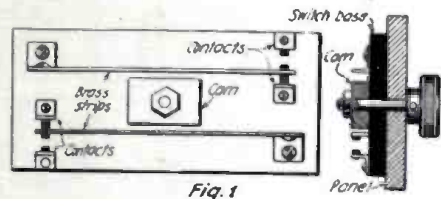

Fig. 1
The transmitter to be described is shown in Fig. 1. It will be seen that there are two distinct sets of tubes, (1) used as an oscillator, and (2) used as an amplifier. In the figure the oscillator is shown as comprising a single tube while two tubes in parallel are used in the amplifier. This disposition and number of tubes is by no means necessary, however. The arrangement in any given case will depend upon the power it is desired to develop. One tube may be used as an oscillator and one as amplifier or several may be used in parallel as amplifiers and will multiply the output accordingly. It will be evident from the diagram that the functions of the oscillating tube (1) are first, to generate oscillations whose frequency to all intents and purposes is fixed by the values of inductance  $V_1$  and capacities  $C_1$  and  $C_2$ , and second, to excite the grid or input circuit of the amplifier tubes (2) with radio oscillations of this fixed frequency. A certain amount of oscillatory power is absorbed in the grid circuit of the amplifier and this of course increases with the number of amplifier tubes. With the type of transmitting tube usually supplied to the amateur it will be found that not more than four amplifier tubes can be effectively driven by one oscillator tube.
Referring to Fig. 1, the oscillator circuit (1) is of the usual capacity coupled type.  $C_1$  should be about twice as large as  $C_2$  and for wavelengths in the neighborhood
In Fig. 1 it will be seen that the high voltage d. c. is supplied to the plates of oscillator and amplifier tubes thru choke coils  $L_1, L_2$ . These coils prevent the radio frequency currents passing into the battery circuits. Condenser  $C_3$  is a radio frequency by-pass for the high voltage supply.
In Fig. 1 is shown an exceedingly simple form of a double-pole, double-throw, switch control by a rotary knob. This switch has but two positions, having no off point. No dimensions are given for the reason that the design permits of wide variation without affecting the result. The switch consists of two brass strips arranged to move between stationary contacts. The fixt contacts are mounted on "L" shaped strips of brass fastened to the block by wood screws or bolts as desired. A rectangular block of insulating material mounted on a shaft serves to spread the strips when turned thru an angle of 90° thus moving the brass strips to the other pair of contacts.